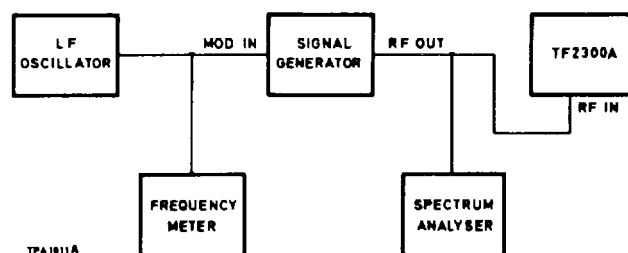

Fig. 4-3. Bessel zero measurement
- (1) Connect the signal generator, externally modulated by the I. f. oscillator, to the inputs of the modulation meter and the spectrum analyser, as shown in Fig. 4-3.